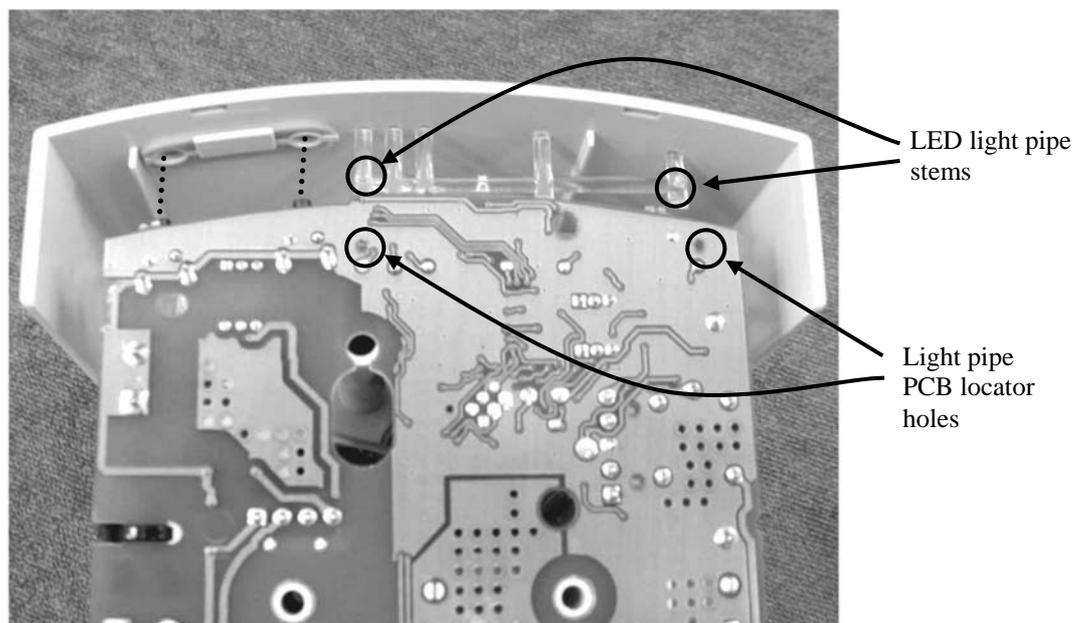

Figure 6.12: Installing the PCB
2. Pull the LED light pipe out of the holes in the front of the top case and lift away (Figure 6.12).
2. Carefully angle the front of the PCB over the LED light pipe, inserting the push button stems into the silicone push buttons, ensure the light pipe stems protrude into the holes on the PCB (Figure 6.12).